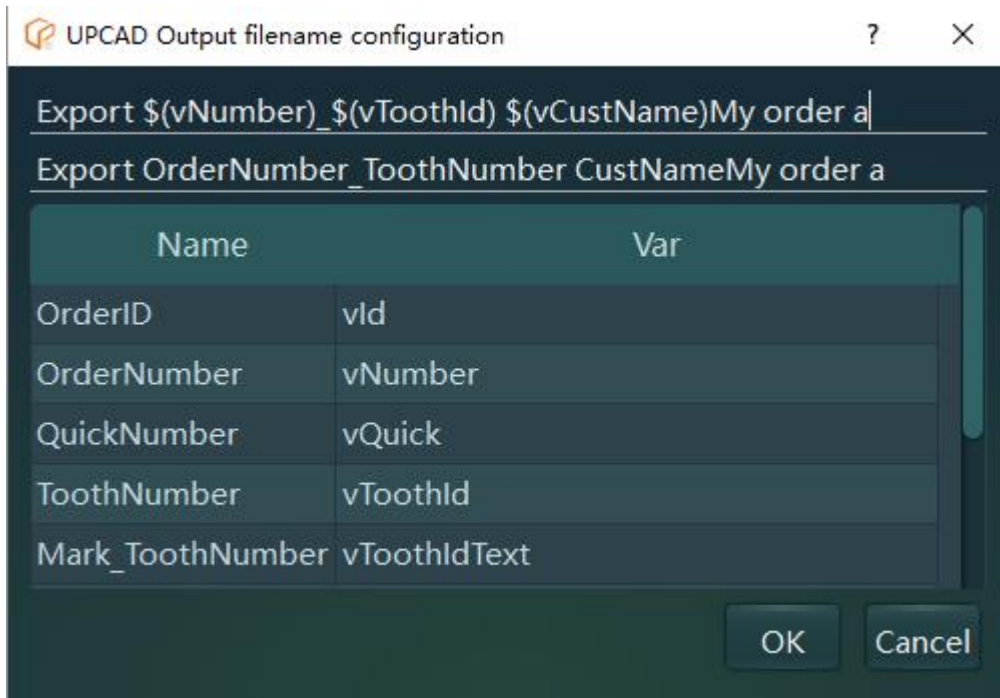

Figure 2-10
(4) UPCAD output filename format: The file name used to personalize the output model (Figure 2-10). You can type the file name directly, or double-click in the list to select the information contained in the output file name.